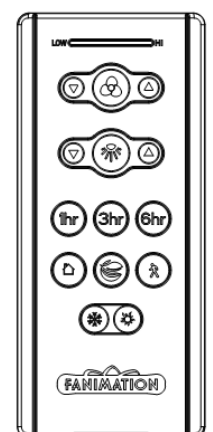

Fig. 5
□ FUNCTIONS OF REMOTE CONTROL: (Fig. 5)